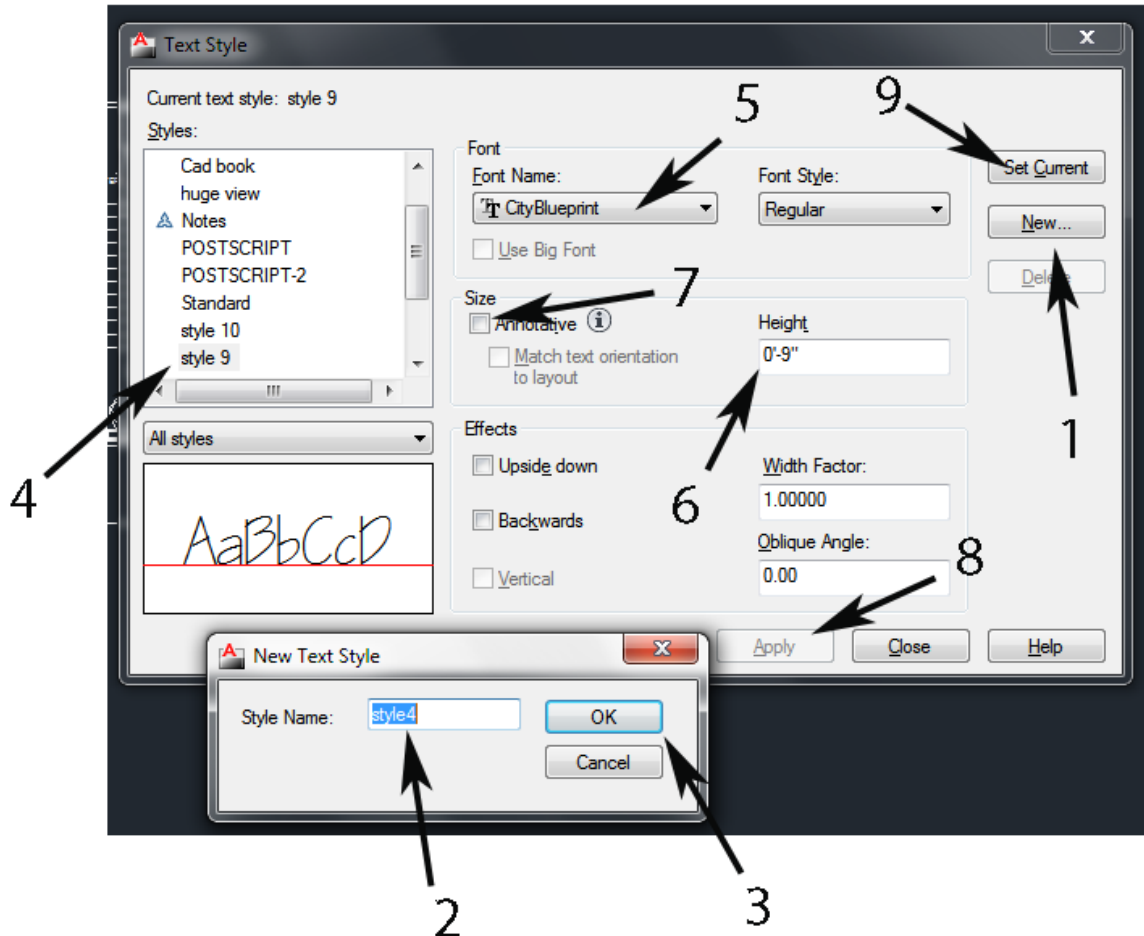

Fig 1-48
Now we must **create a text style**. Type: **style**. The **Text Style dialog box** will pop up (**Fig 1-48**). Click **New** (1 in Fig 1-48). **Name the style** in the window (at 2 in Fig 1-48), type: **style 9**. Then click **Okay** (3).
Back in the **Text style dialog box** click the **style 9** selection (4). Click on the drop down menu under **Font Name** (5) and select **City Blueprint**. **Highlight the Text Height** (at 6 in Fig 1-48) and **over type: 9**. **Uncheck the Annotative** box (7). Click **Apply** (8), then **Set Current** (9), then **Close** (see Appendix I—Text for more info).